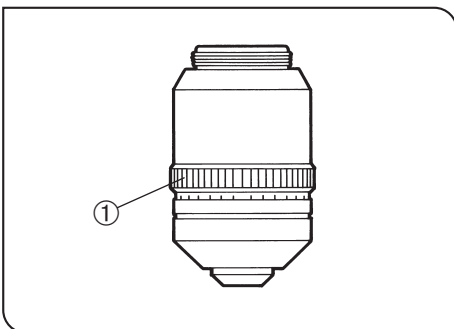

Fig. 44
- If the cover glass thickness is known, set the correction collar ① to that scale value. (Fig. 44)
- If the cover glass thickness is unknown, adjust the correction collar ① and fine adjustment knob alternately until the positioning with the highest contrast is obtained.
- Ⓞ Be careful not to touch the correction collar ① when turning the revolving nosepiece.